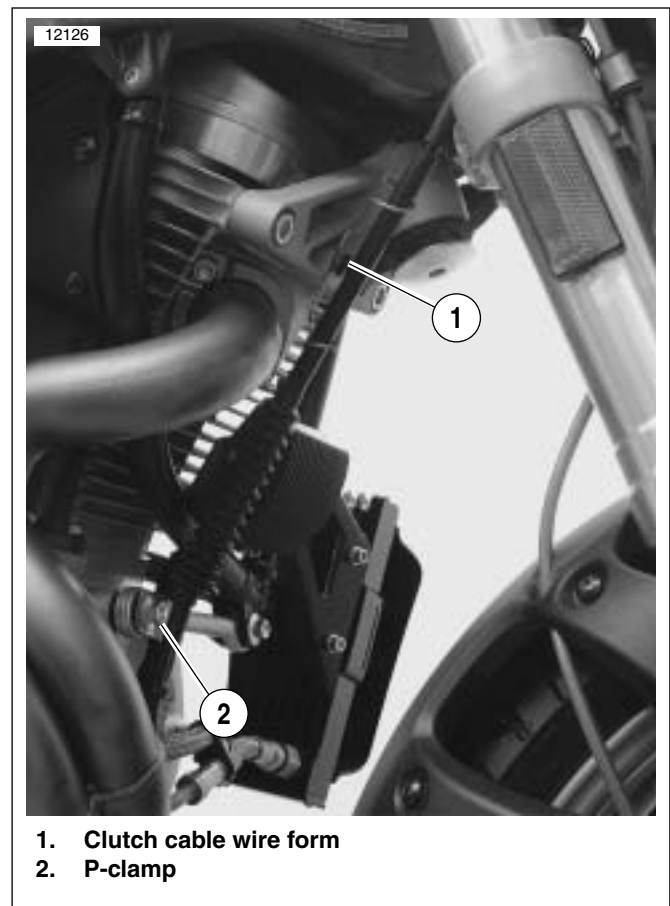

Figure 2-100. Clutch Cable Wire Form
4. See Figure 2-100. Remove wire form (1) from front isolator.